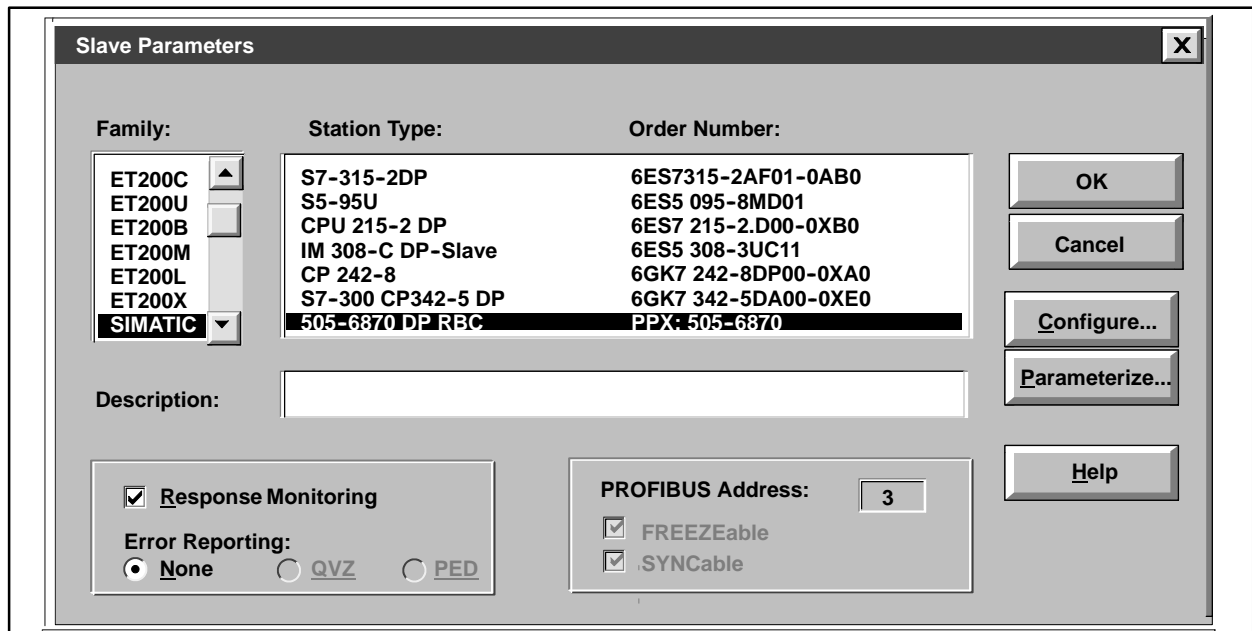

Figure 9-5 Slave Parameters Dialog Box
- Select the appropriate address and click **OK** to confirm. The Slave Parameters dialog box opens (Figure 9-5).